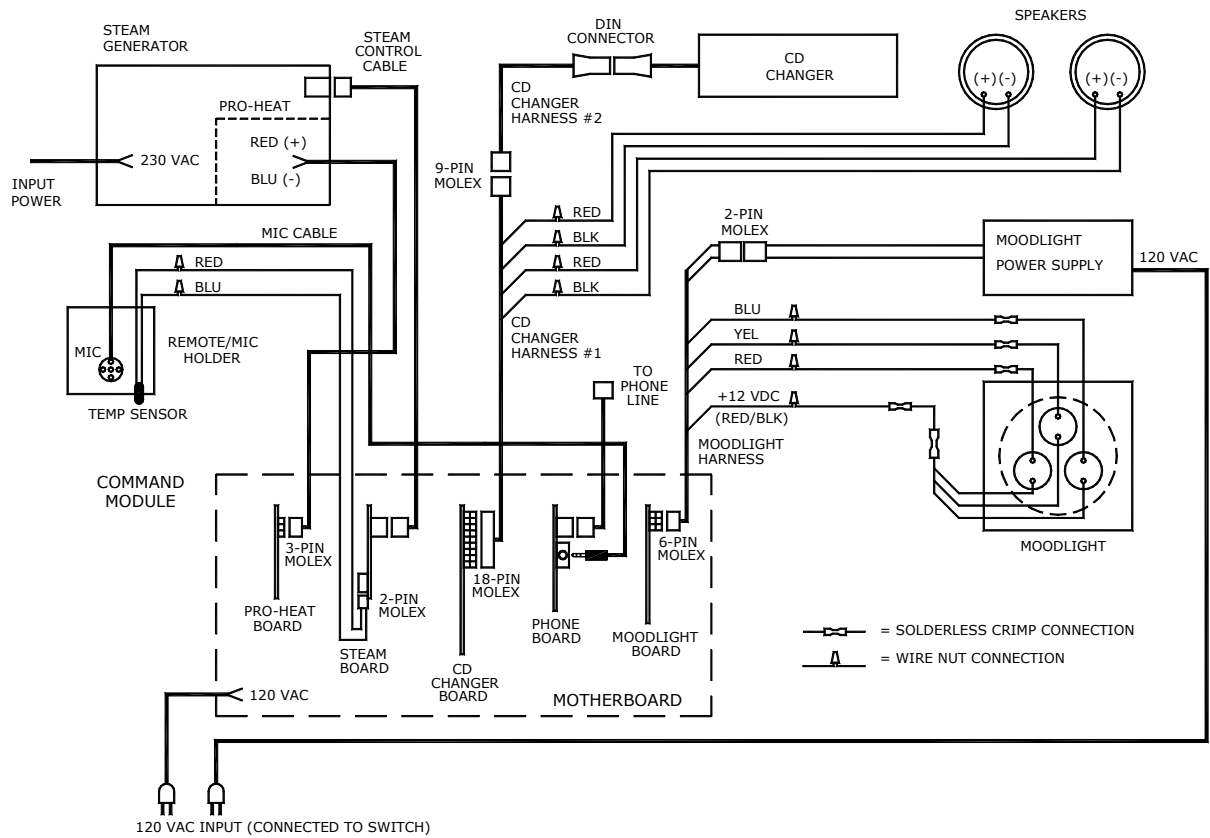

Figure 12
7. Install 18 AWG wire for MoodLight from the Command Module location to the location where the MoodLight will be placed (if MoodLight option is used). See Figure 12 for wiring detail. Refer to MoodLight Installation Instructions for installing the MoodLight fixture.
8. Install 18 AWG wire for speakers from the Command Module to the location where the speakers will be placed (if Phone and/or CD Changer option is used). See Figure 12 for wiring detail. Refer to Installation Instructions: Speakers – CD Changer – Phone for installing these components.
12. Connect the various components of the Ambiance Pro System as shown in the following wiring diagram see Figure 12. All wiring for the system exits out the holes in the back of the Command Module.